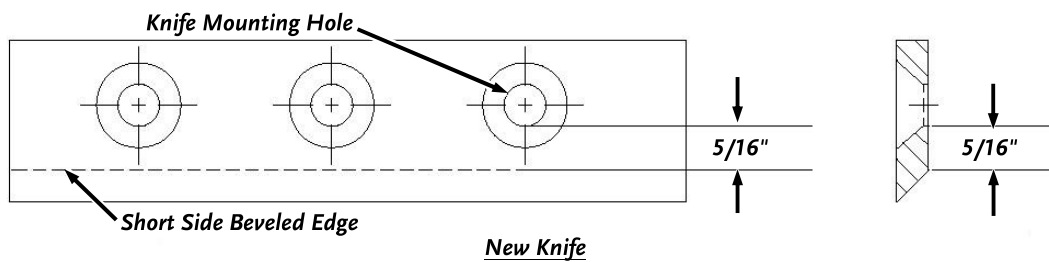

Figure 16
3. Rotate the Flywheel with a stick until the Knife is centered in the opening (**Figure 16**).
- A new Chipper Knife has a $5/16$ " measurement between the short side bevel edge and the Knife mounting holes (**Figure 16**).